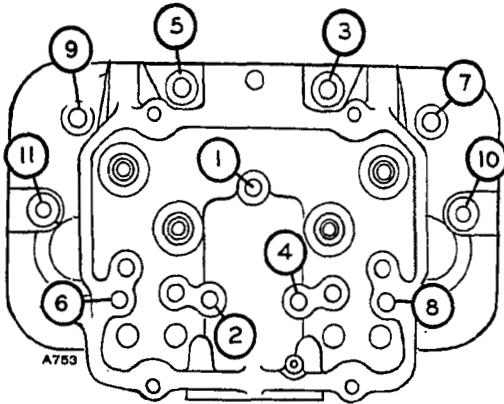

FIGURE 89. CYLINDER HEAD BOLT TORQUE SEQUENCE
7. Tighten head bolts to 44 to 46 lbs. ft. following the sequence in Figure 89.
- c. Tighten cylinder head capscrews, following sequence in Figure 89.